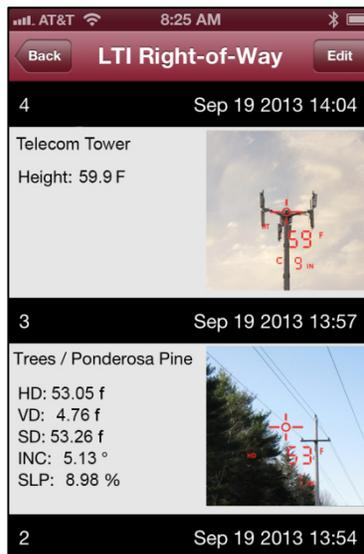

Figure 45
3. Tap the  button in the upper right-hand corner of the screen (Figure 45). Minus signs will display next to each shot.